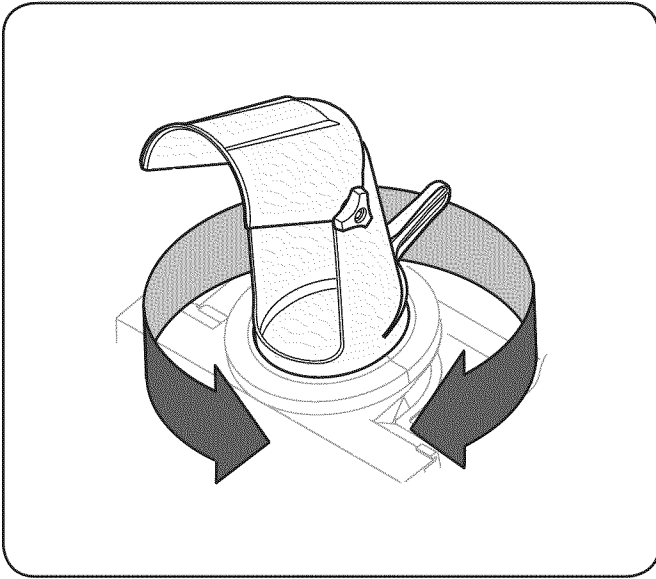

Figure 5-3
2. Position the chute assembly opening by using the chute handle to throw the snow in the desired direction. See Fig. 5-3.